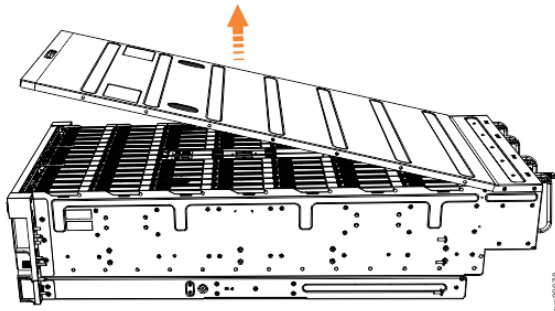

Figure 53. Removing the 5U expansion enclosure cover
3. Carefully lift the cover up, as shown in Figure 53 on page 54.